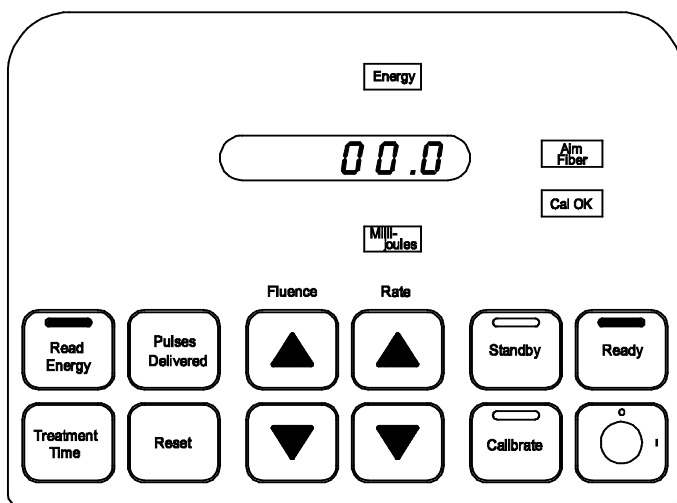

Figure 13
11. Pressing the **Read Energy** button causes the fiber output energy to be visible in the display window. To read the energy coming from the fiber, aim the fiber at the calibration detector and depress the footswitch. (Figure 13)